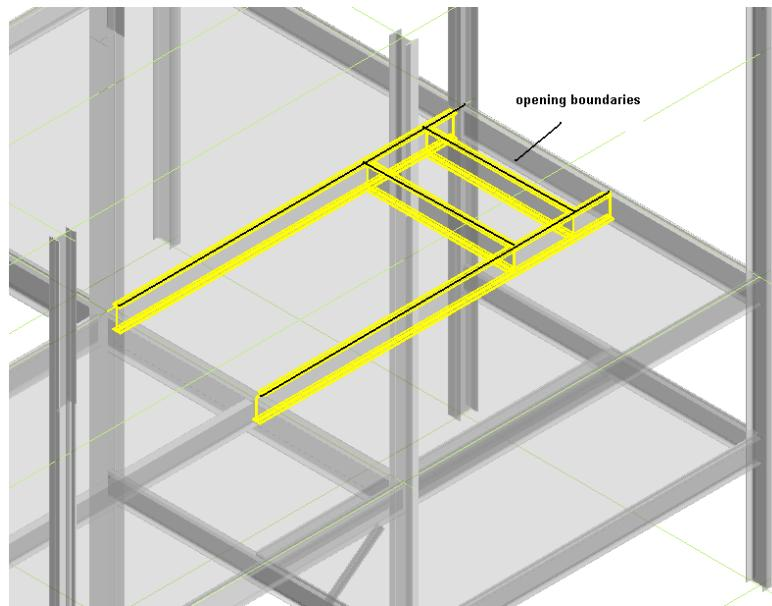

Figure 1 – ISO View of the Stairway Opening
- 4 Select the slab located in U03 on the first floor frame as shown in Figure 1
- 6 Select the members as shown in Figure 1 to define the boundaries of the opening. Use the quick pick service to select the members.